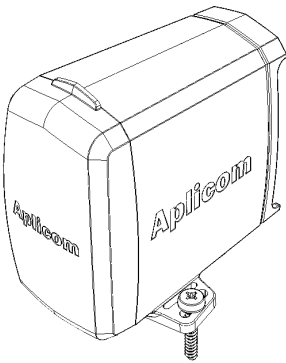

Figure 1.
1. With the Screws. Put the screws through the outer openings. Figure 1.
- Attach the elastic protective cover. Figure 1.